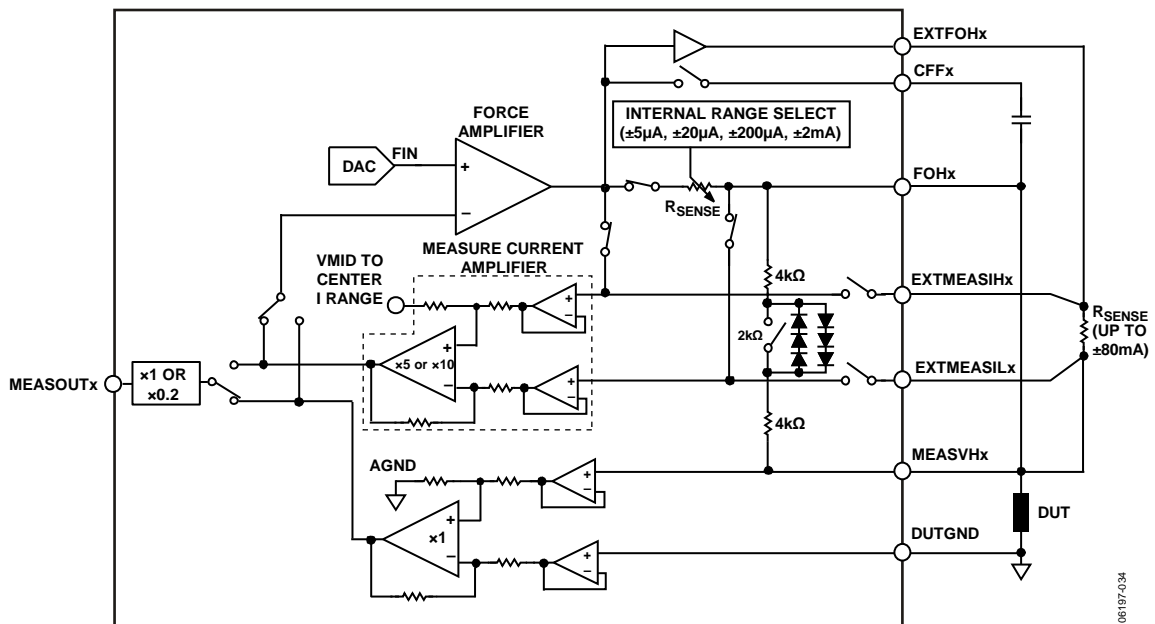

Figure 52. Forcing Current, Measuring Voltage
In force current (FI) mode, the voltage at the FIN DAC is converted to a current and is applied to the DUT. The feedback path is the measure current amplifier, feeding back the voltage measured across the sense resistor. MEASOUTx reflects the voltage measured across the DUT (see Figure 52).